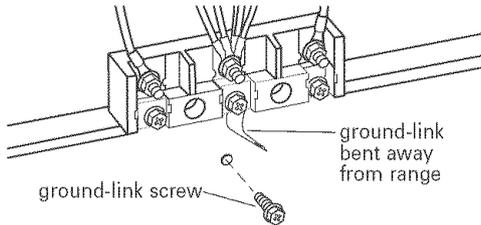

Figure 4
7. Remove the ground-link screw from the range frame. Save the ground-link screw and cup washer. Bend the ground-link away from the range so that it does not contact the range. See Figure 4.